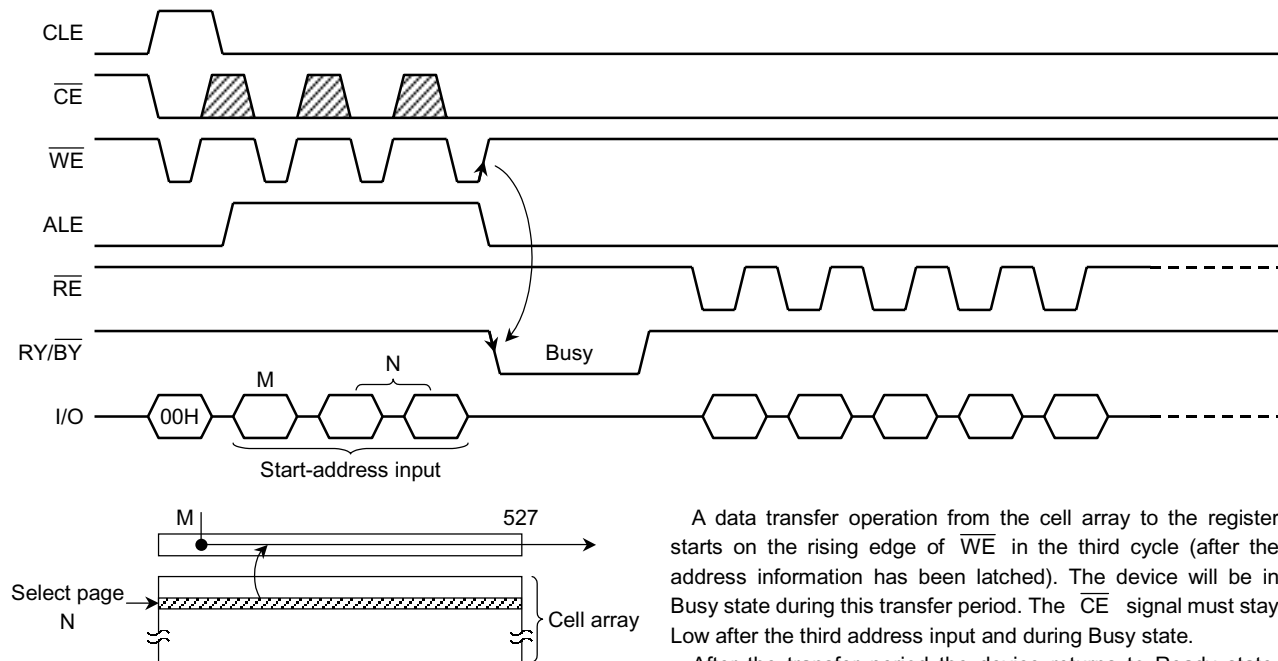

Figure 3. Read mode (1) operation
Read mode (1) is set when a 00H command is issued to the Command register. Refer to Figure 3 below for timing details and the block diagram.